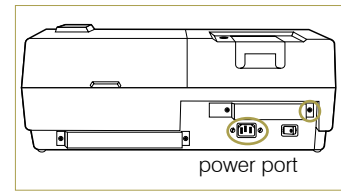

Figure B-12: Power port on the back of the VetTest analyzer
1. Connect one end of the power cord into the power port on the back of the VetTest analyzer (Figure B-12).